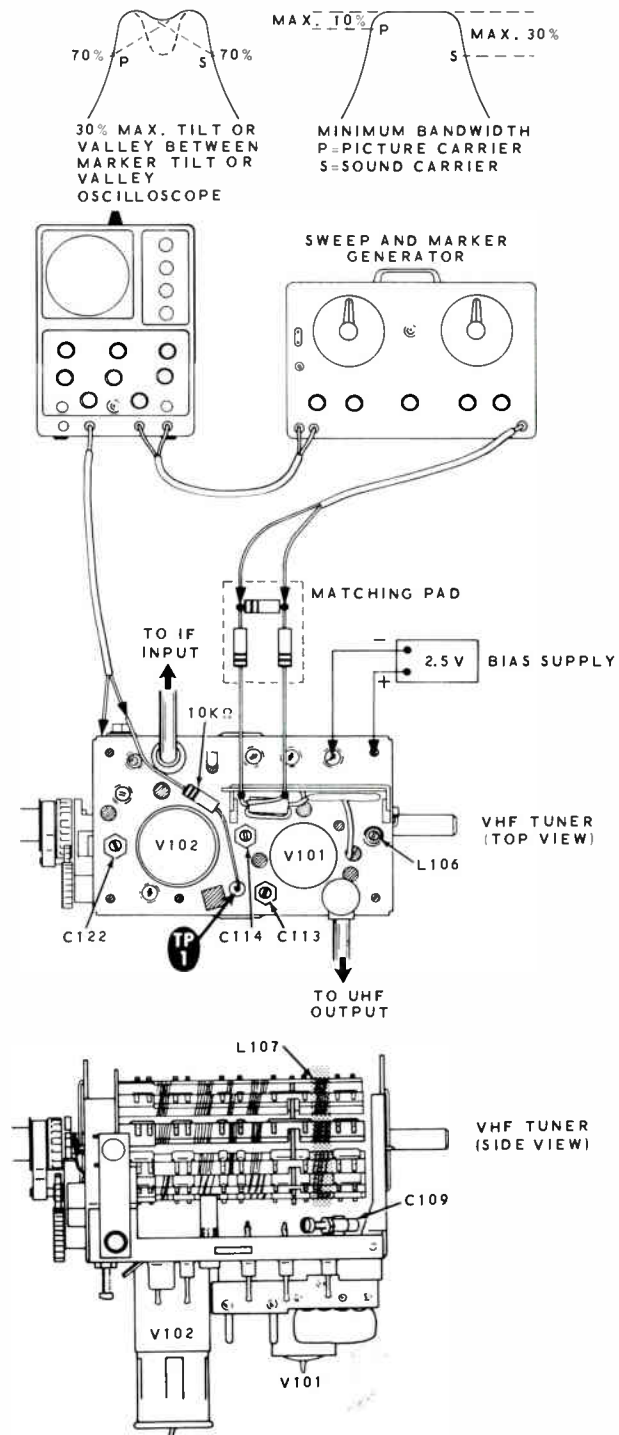

Figure 4-10
Refer to Figure 4-10 for the following steps.
- ( ) Adjust coil L106 for maximum gain and bandwidth. See Figure 4-10 on Page 127.